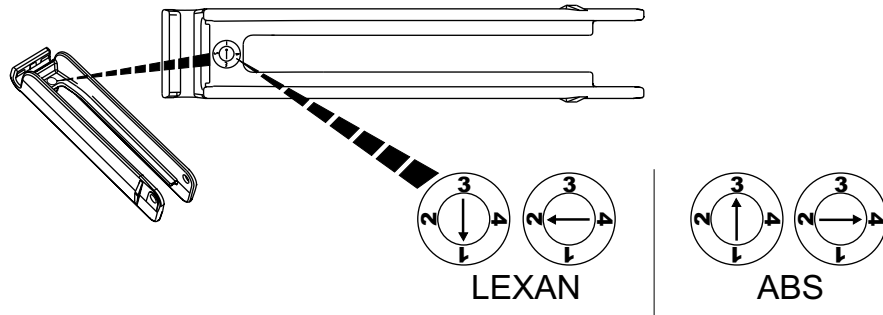

Figure 5
- Identify the vertical support with the clock code (1 & 2 Lexan, 3 & 4 ABS). Destroy all ABS vertical supports by breaking in half and discarding. Refer to *Figure 5*.